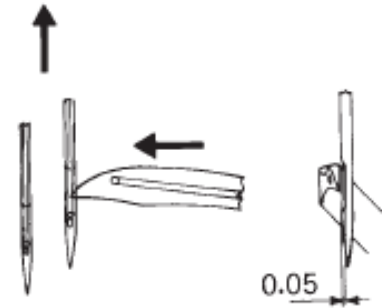

FIG. 6
B. To obtain dimension 0.05 (Fig.6) which represents the distance between the end of the looper and the groove of the needle during its stroke from right to left, loosen screw G (Fig.7) and adjust by turning shaft H.